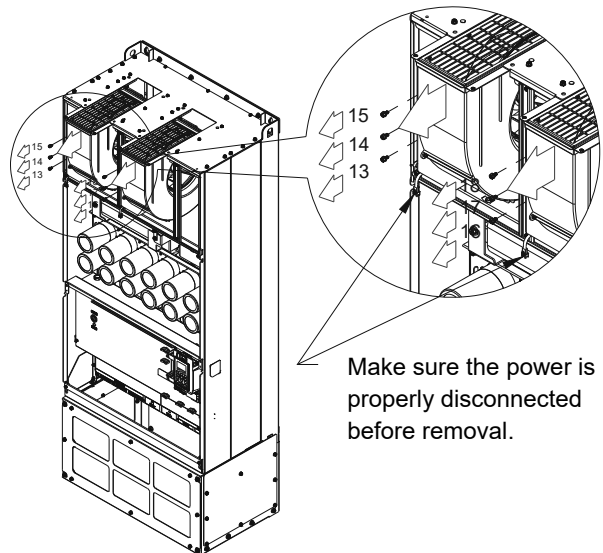

Figure 4
4. Loosen the screw 13~18 and remove the fan. Screw torque: 24~26kg-cm / [20.8~22.6 lb-in.] / [2.4~2.5 Nm] (figure 4)